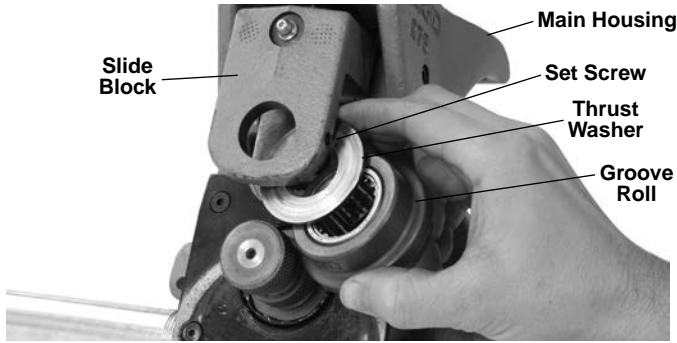

Figure 4
3. Insert the thrust washer and new groove roll into the slide block. Ensure that the internal retaining ring in the groove roll is closest to the main housing, and that the groove roll is between the thrust washer and main housing. (See Figure 4.)